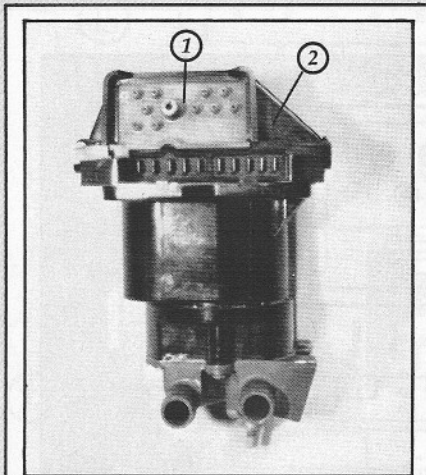
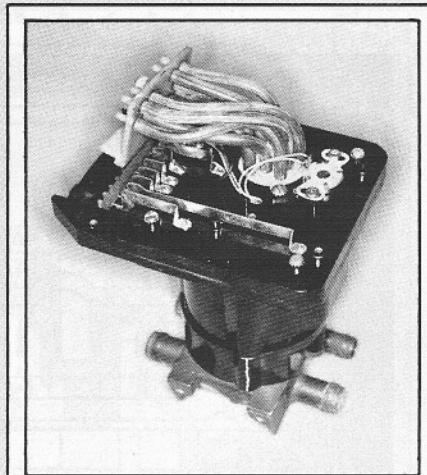
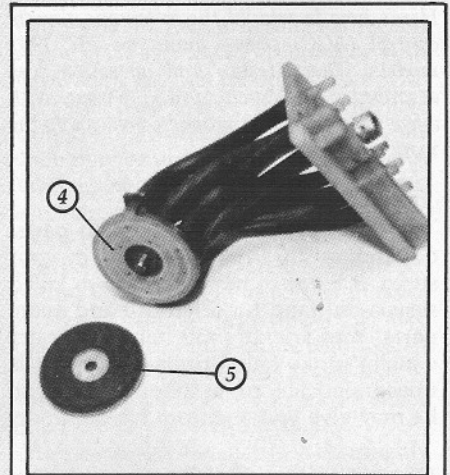

Fig. 2: Connector Side of Servo: vacuum connections (1); top cover (2); electrical connections are numbered left to right, 1-10.
Fig. 3: Vacuum Valve In Place: with top cover removed, vacuum valve is under circular plate where hoses enter vertically.
Fig. 4: Vacuum Valve Detail: removed from servo, small holes can be seen in vacuum valve (4) and grooves in vacuum valve disk (5).
the top cover. Hold the vacuum connector, (1) on Fig. 2, while removing the top cover (2). Remove the two screws securing the vacuum valve (4) to the top plate (3) and remove the vacuum valve (Fig. 3). Leave all the short hoses attached. The vacuum valve disk (5) in Fig. 4 may come off with the valve; set it aside in a clean place.
Clean the gasket surface and areas around the water valve. An old toothbrush and spray cleaner like Formula 409 work well here. Be sure the poppet valve shaft (19) and poppet valve lever (17) are not bent (Fig. 4). Place a new gasket in the upper housing groove and position the new aluminum midchamber on the unit. Make sure the poppet valve shaft (19) is in its mating guide hole in the upper housing (Fig. 4). The water valve should slide easily into the center hole of the midchamber.